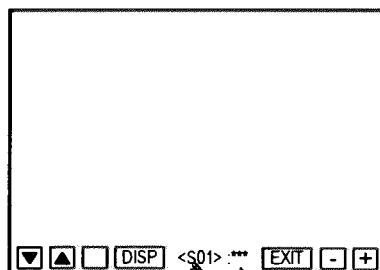

Fig. 4
(3) SETTING VALUE CHANGES
- While the adjustment mode menu is displayed.(Fig.4)
- ① Press the +key to change the setting value in the + direction.
- ② Press the -key to change the setting value in the - direction.
- ③ Press the **PHASE** key or **CHROMA** key to change the adjustment items.